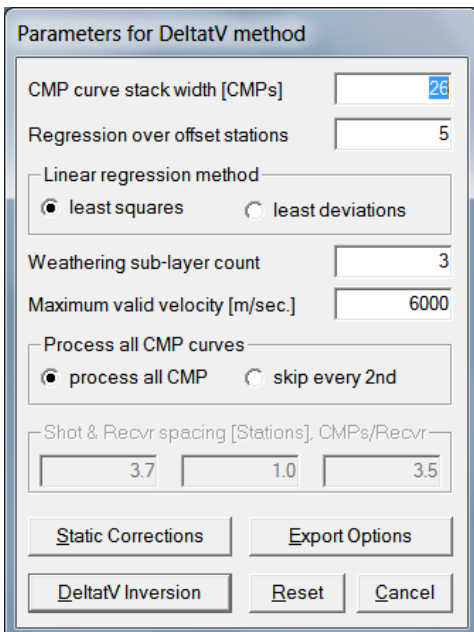

Fig. 28 : DeltatV\Interactive DeltatV main dialog. Default settings for Fig. 23 and Fig. 25.
- select *DeltatV|Interactive DeltatV*. Leave main dialog settings at defaults (Fig. 28).
- click button *DeltatV Inversion* (Fig. 28)